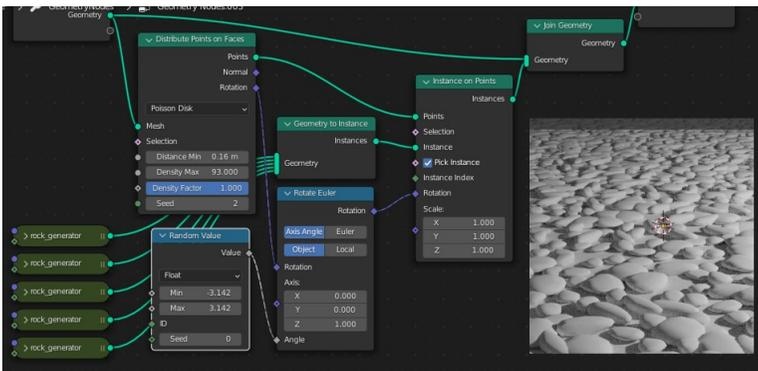

Figure 14-3 Scattered rocks on a plane.
15. To make the rocks lie flat on the surface connect the Rotation output of the distribute points on faces node to the Rotation input of the instances on points node. Then, to make the rocks rotate randomly around their Z axis insert a rotate node into the connection you just made, select **Add ▸ Utilities ▸ Rotate Euler** and change its method of rotation to **Axis Angle** with the Axis **0.0, 0.0, 1.0**. You now need to feed a random value into the Angle input of the rotate Euler node, use **Add ▸ Utilities ▸ Random Value**, setting the Min to **-pi** and the Max to **pi**. The node tree and resulting 3D view are shown in Figure 14.3